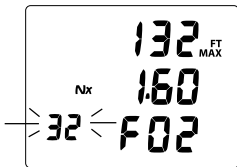

Fig. 20B - SET FO2 = 32%
- Depressing and holding the S (Side) button will resume the scroll from 32 (Fig. 20B) through 50%, then stop at AIR (or 21%).